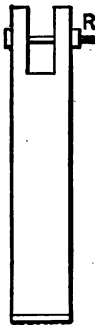
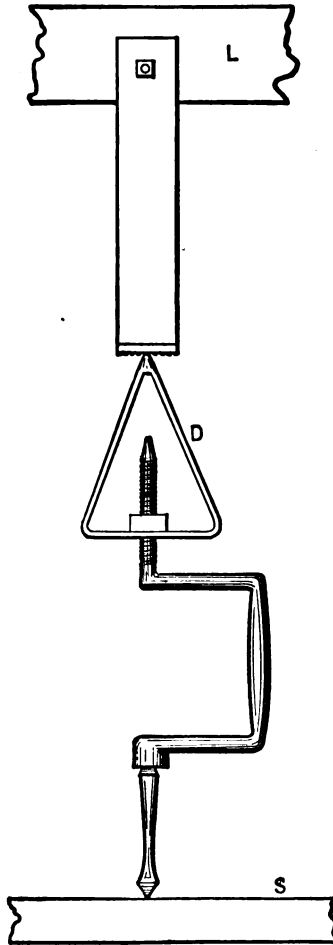

Fig. 84—Showing the Piece of Scantling Used.
Fig. 85—Showing the Joist, Vise Bench, and Drill.
*B, B*, together, and the brace is then ready to be put together as shown in Fig. 85. I next take a piece of scantling 4x4, cut a mortise in one end as shown in Fig. 84, and bore a half-inch hole at *R*, and fasten
end of the piece shown in Fig. 84, and "dot" it well to keep the drill from slipping off. In Fig. 85 the brace is shown completed, *L* being the joist and *S* the vise bench. This is a handy and cheap way to make a drill, and answers well in a small shop where room is scarce. This make of drill works on the same principle as the ratchet drill, and can be adapted